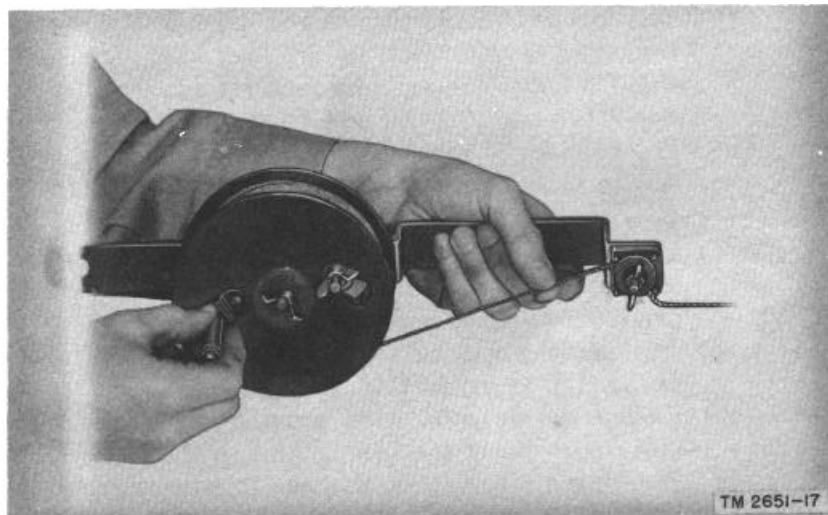

Figure 18. Unwinding antenna wire from reel.
- (e) Unwind the wire of the antenna reel as follows (fig. 18):
Note. To remove the wire from a reel, loosen the off-center thumb nut on the reel, slide the thumb nut and the wire termination toward the adjacent hole (fig. 18). Slip the nut through the hole and remove the wire from the reel. To rewind the wire on the reel, refer to paragraph 34a(1) (d).